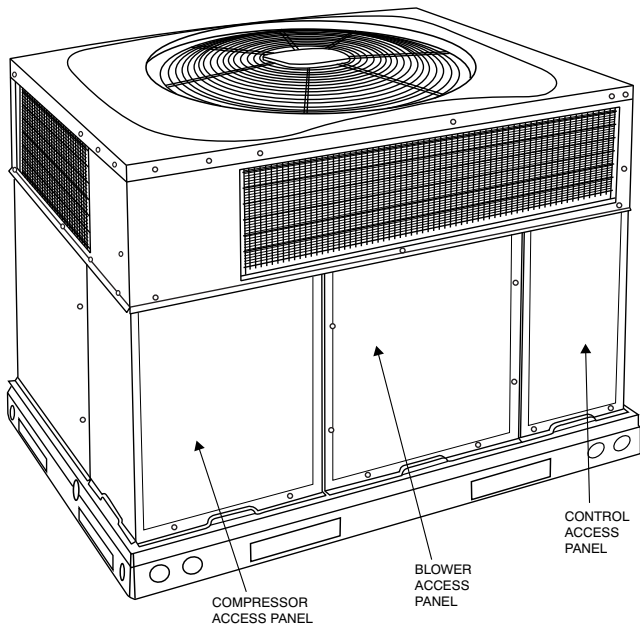

Fig. 26 – Unit Access Panels
- g. Reinstall blower access panel (see Fig. 26).
Remove access panels (see Fig. 26) to locate all the electrical controls and wiring. Before working with or handling any electrical components, make sure that all capacitors are properly discharged to avoid possibility of sparking. Replace components only with parts specified by the manufacturer. Other parts may result in the ignition of refrigerant in the atmosphere from a leak. Check all electrical connections for tightness. Tighten all screw connections. If any discolored or burned connections are noticed, disassemble the connection, clean all the parts, restrip the wire end and reassemble the connection properly and securely.